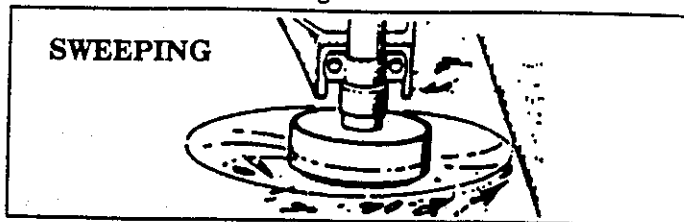

Figure 15
4. **SWEEPING** - Figure 15. The fanning action of the rotating line can be used for a quick and easy clean up. Keep the line parallel to and above the surfaces being swept and move the tool from side to side.